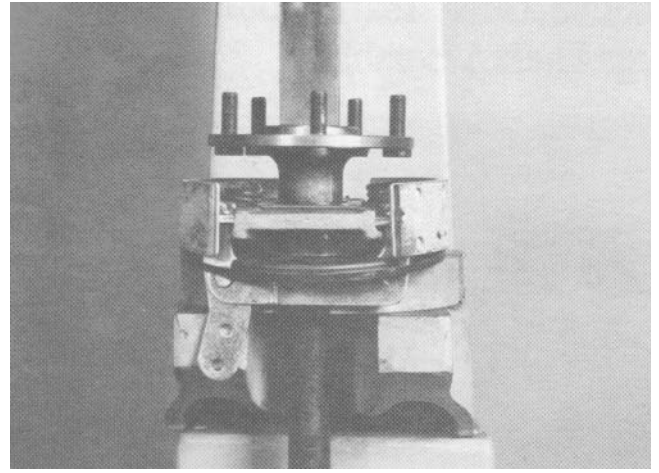

Figure 13
2. Pack the bearing with grease and press it onto the axle shaft (Fig. 13).